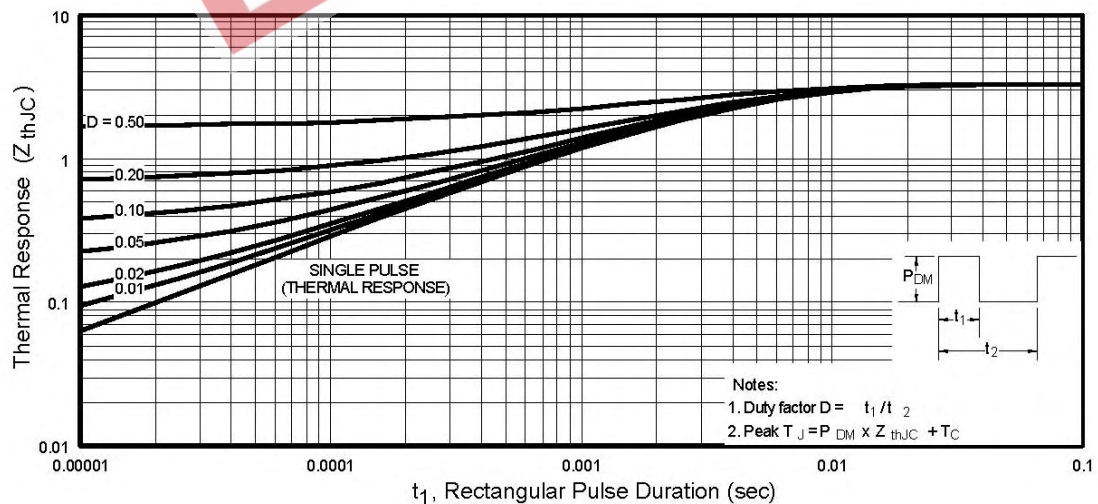

Fig 11. Maximum Effective Transient Thermal Impedance, Junction-to-Case
- ① Repetitive rating; pulse width limited by max. junction temperature. (See fig. 11)
② Starting T_J = 25°C, L = 2.8mH